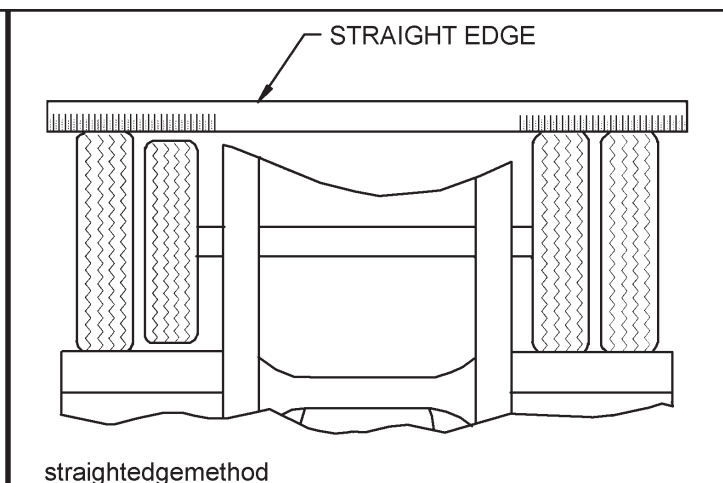

Figure 4-18 Straight Edge Method
- b. **Straight Edge or String Method:** (This method cannot be used if tire and wheel assemblies are not mounted on the axle.) Jack trailer up until the wheels are off of the ground. Hold a straight edge against the tires of both ends of an axle. A gap at one tire indicates a smaller tire. A maximum of $1/8$ " gap is allowed (**See Figure 4-18**).